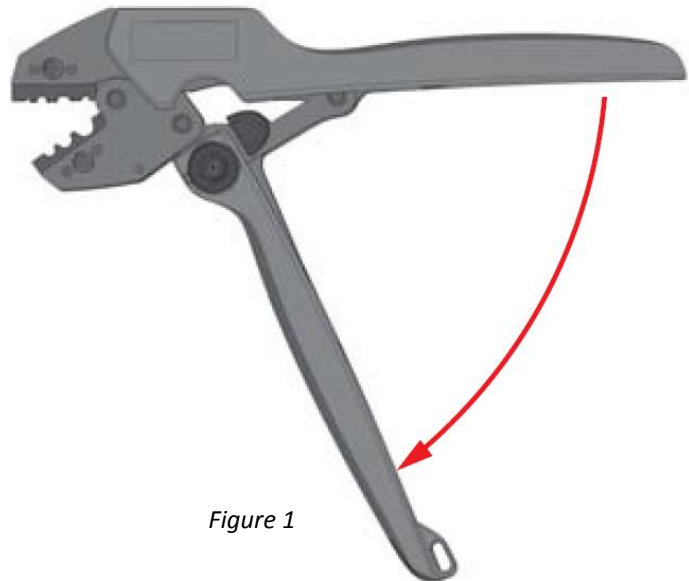

Figure 1
2. Squeeze the handles until the tool ratchet releases, allowing the handles to fully open (Figure 1).